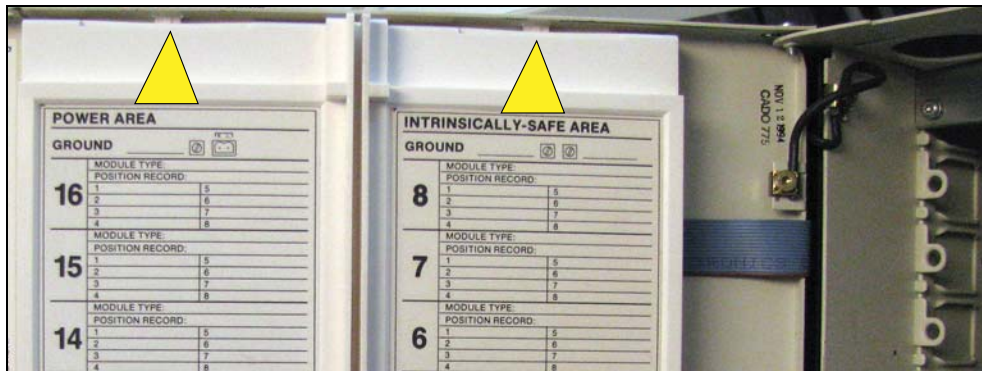

Figure 2. Top Display/Keyboard Cover Securing Tabs
3. Facing the inside of the display door, insert a flat blade screwdriver between the top of the plastic display/keyboard cover and next to one of the two tabs of the cover that seat in the door's slots (see Figure 2). Gently pry down with the screwdriver blade near the tab to free it from the slot in the door, then repeat this procedure to free the second tab. Firmly rotate the cover away from the door to free its bottom tabs from the bottom door slots. Feed the two cables between the door(s) and remove the cover from the console and set it aside.